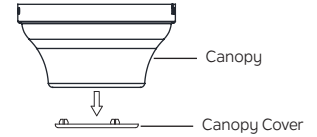

Fig. 10A
Step 2. Remove the canopy cover from the canopy by pushing out (**Fig. 10A**).